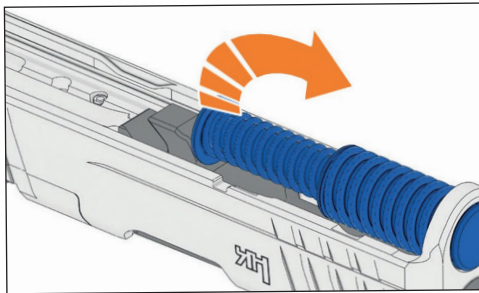

Figure 24 – Removing the recoil spring assembly
4. Turn the slide upside down and carefully push the recoil spring assembly forward and upward, separating the recoil spring assembly from the barrel and slide (see Figure 24).